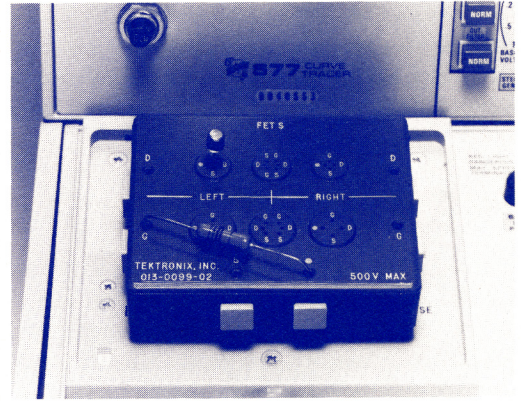

Figure 5-1. External resistor installed.
- 2) Connect external resistance — Remove base 2 lead from gate position of socket adapter, and place it in yellow dot socket position. Insert specified resistor [100 Ω] between yellow dot and gate external connection points on edge of socket adapter. Note that, to open hole for resistor lead insertion, press square button (on side of adapter) nearest hole. See Figure 5-1.